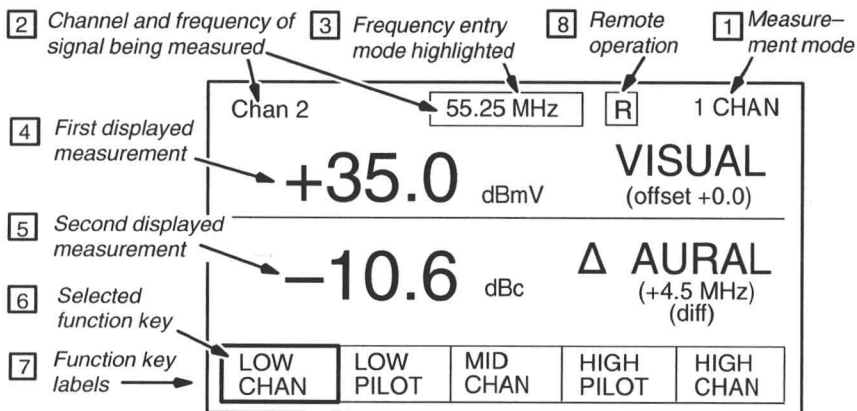

Figure 2–4: Commonly-Used Display Readouts and Labels
Please review pages 2–9 through 2–11 before proceeding to the individual measurement discussions. These pages contain general information that applies to all measurements and is not repeated in each measurement discussion. Figure 2–3 shows the measurement hierarchy for all the measurement modes.
Refer to the sample measurement screen in Figure 2–4 while reading this list of commonly-used display readouts and labels.
3. An outline around either the channel number or frequency indicates the entry mode. (A dashed outline indicates that the knob and keypad are ‘uncoupled.’) In Figure 2–4, the frequency is outlined, so keypad or knob entries will be interpreted as frequency, unless CHAN is pressed to change the entry mode.
6. Labels across the bottom of the screen define the function key actions (if any). When the corresponding function key is pressed, the labeled action will occur, or the labeled submenu will be entered. When the function keys are assigned to the presets, as in Figure 2–4, pressing a function key tunes the instrument to the preset frequency. (Programming the Presets is described on page 3–18.)
8. When a remote signal is sent to the RFM 150, it places the instrument in remote operating mode. The remote indicator (an outlined R) will appear to the right of the frequency at the top of the display. See Figure 2–4. When any front-panel control is used (other than the POWER key), it will convert the instrument to local operation, and cause the remote indicator to be removed. After that, all front panel controls will be functional.